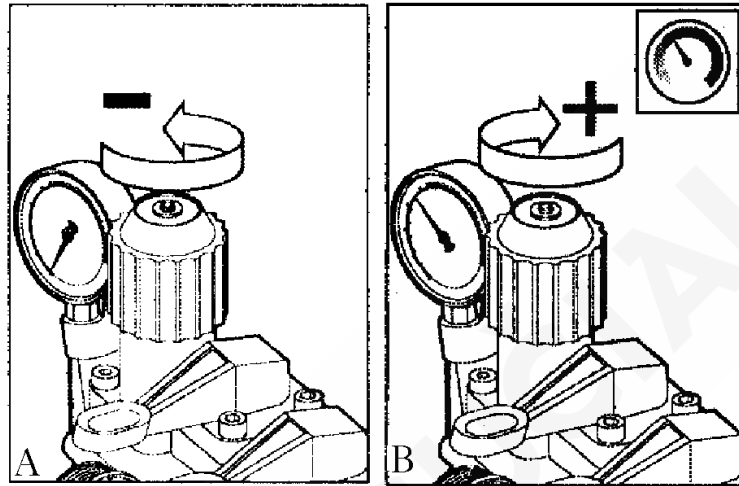

Figure 15 (A, B). Proportional pressure valve.
- b) Set the control lever to "work" - the lever at the bottom; manometer starts to work - to show the pressure (Fig. 15 B);
- c) Close completely overflow valve to the proportional valve in the direction according to the clockwise (Fig. 15 B). If the pressure rises above an upper limit on the manometer, make sure that the valve of max pressure is fully open;